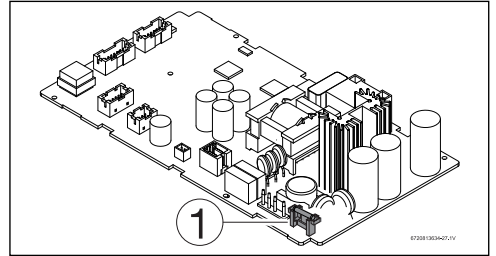

Fig. 38 Fuse position
- ▶ Check the fuse on the printed circuit board for electrical continuity, see fig. 38, [1].